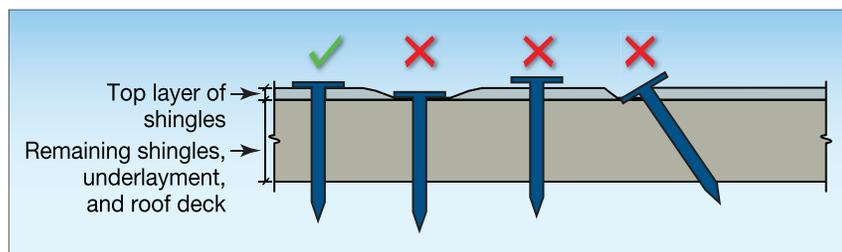

Figure 2: Examples of properly and improperly driven roofing nails
3. Ensure that the fastening equipment and method results in properly driven roofing nails for maximum blow-off resistance (Figure 2).